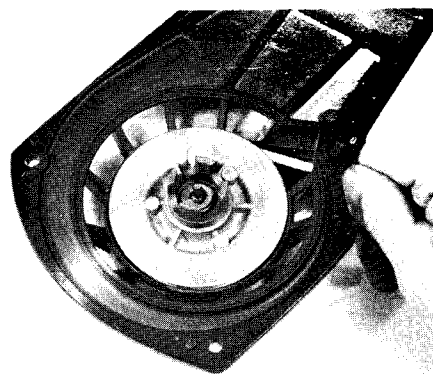

Fig. 80 — Recoiling Rope on Pulley
4. Insert rope through housing into pulley and tie a knot. Release pulley and allow rope to recoil on pulley, Fig. 80.